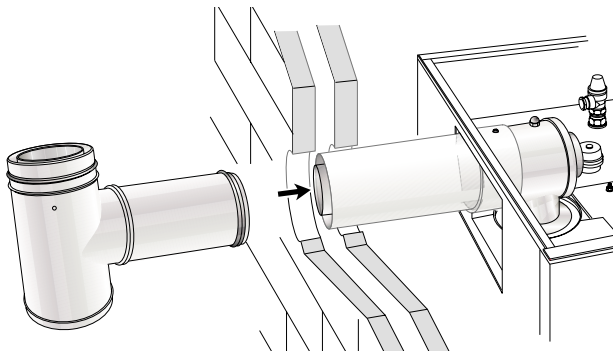

Fig. 10
2. From outside the building - fit terminal section through the hole in the wall. Engage onto boiler connector section (Fig. 10).